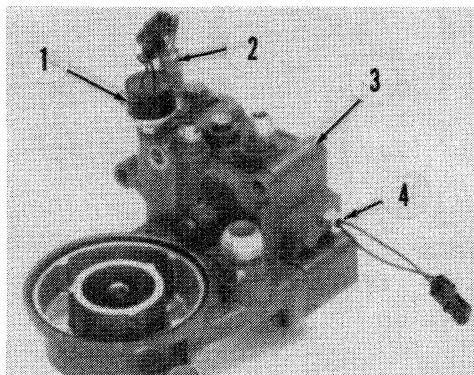

Fig. 98—Gage cluster sensors are located on oil filter relief valve housing on tractors with Quad-Range transmission.
On tractors equipped with Quad-Range transmission, the transmission oil pressure sensor (2—Fig. 98), oil filter sensor (1) and oil filter override switch (4) are located on the oil filter relief valve housing (3). The sensors act together along with a time delay device to activate the warning light. The override sensor, which is a temperature switch, prevents false filter restriction warning when the oil is cold. The oil pressure sensor should close when oil pressure is below 120 psi (827 kPa). Specified oil pressure is 170-180 psi (1175-1240 kPa). When switch is closed for longer than two seconds, warning light should come on. The oil filter sensor should close if filter becomes restricted and pressure differential exceeds 81 psi (556 kPa), completing circuit to ground for warning light. The override switch is in the same circuit with the oil filter switch. It should open at temperatures below 61° F (16° C) preventing a circuit to ground and a false restriction warning when oil is cold. The switch should normally be closed above 68° F (20°